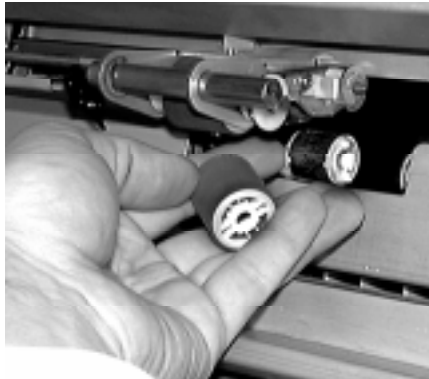

Figure 4-42 Removing Lower Rollers from Shaft
5. Pull the two lower rollers off of the lower shaft now. See Figure 4-42.